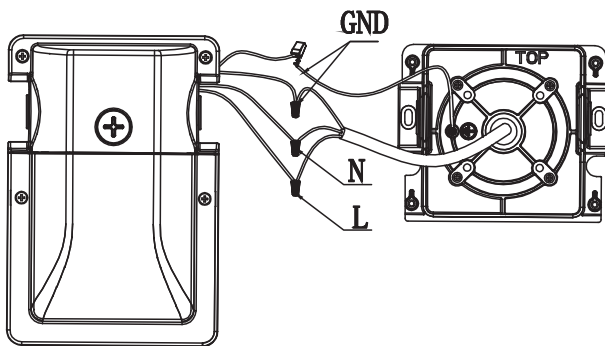
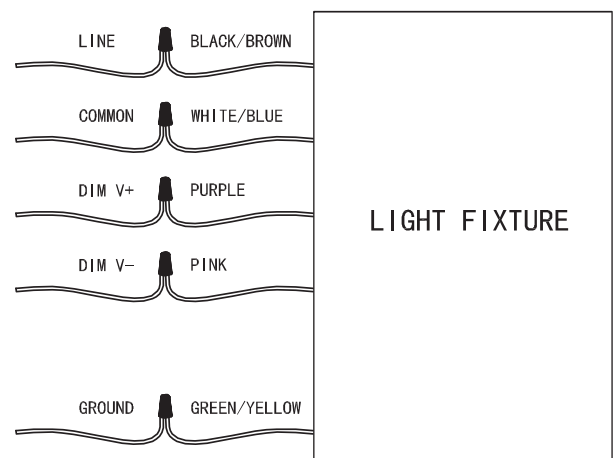

Fig. 7
Fig. 8
7. Route the power wires through the backplate of the housing, as shown in Fig. 7. Connect the housing wires to the power wires using UL-listed wire connectors, in accordance with NEC and local codes. (Fig. 8) Push all wires into the housing. Add a silicone gasket around the entire back surface of the fixture during final wall mounting.
Universal voltage driver permits operation at 120V thru 347V, 50 or 60 Hz. For 0-10 Dimming, follow the wiring directions as in Fig. 8